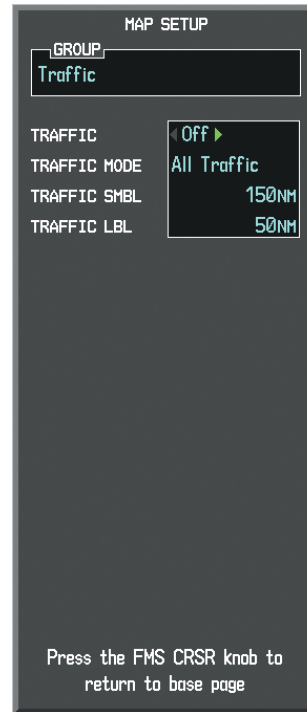

Figure 6-176 Navigation Map Page Setup Menu, Traffic Group
- 5) Turn the large **FMS** Knob or press the **ENT** Key to scroll through the selections (Figure 6-176).